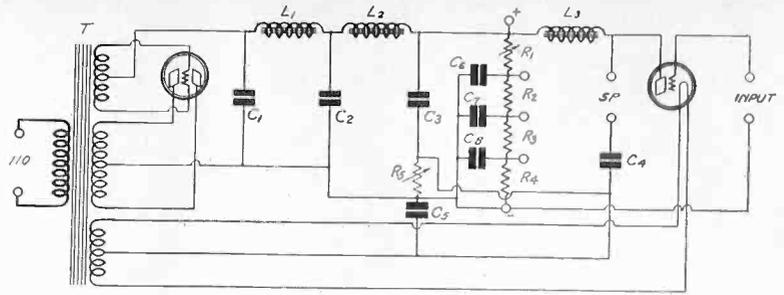

FIG. 3
The speaker connection shown in Fig. 1 is the usual connection because this is the most convenient in most cases and it also subjects the stopping condenser C4 to a low stress. But it is not the best from the viewpoint of quality of reproduction, degree of amplification, and stability of the circuit. Fig. 3 shows the connections which will introduce the least hum in the signal, which will yield the greatest stability of the circuit, and which will operate with the least dependence on the resistor R.
**The Reversal in Fig. 3**
Note also in Fig. 3 that the positions of the speaker and the stopping condenser have been reversed. The speaker is next